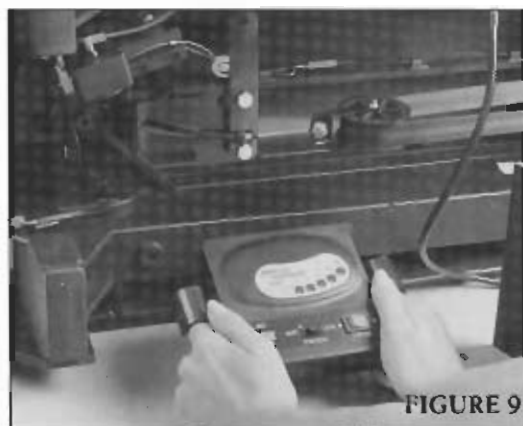

FIGURE 9
4. Plug the free end of the 10-pin cable into the console (Figure 9).